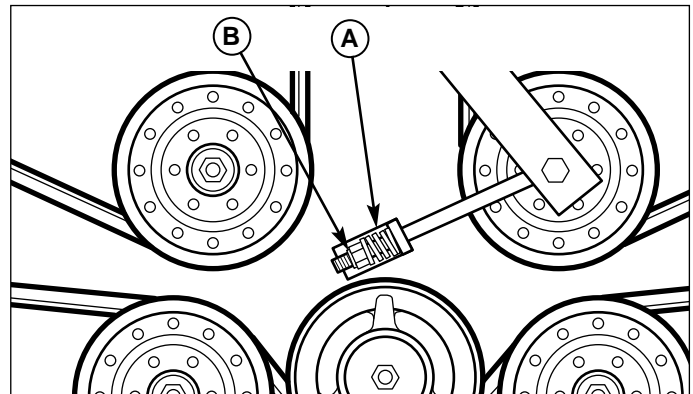

Figure 34. Mower PTO Belt
4. Loosen the spring compression nut (B, Figure 34) to release the belt tension.
7. Install the drive belt on the PTO pulley, the spindle pulleys and idler pulleys. Tighten the spring compression nut (B, Figure 34) until the belt tension spring (A, Figure 34) is 1-5/8" (4,12cm) long.